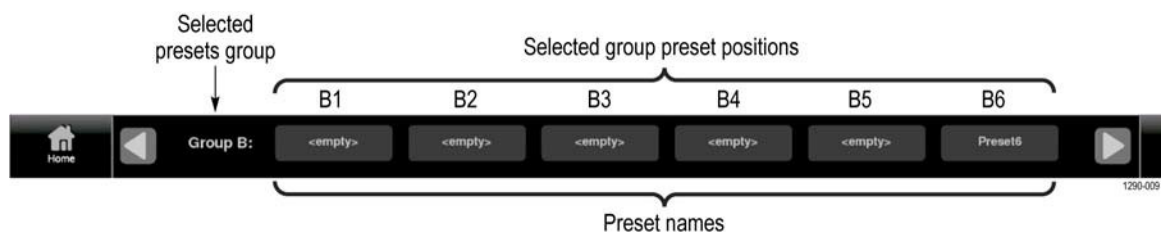

Figure 65: Preset selection controls (Group B shown)
- a. Select the **Presets** (★) icon to open the Preset selection controls at the bottom of the PRISM display. (See Figure 65.)